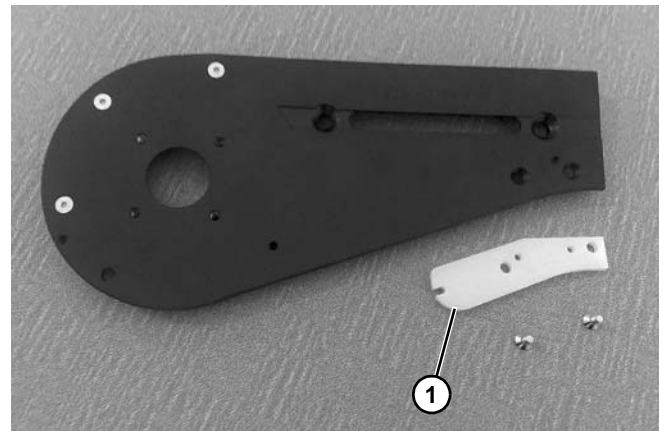

Figure 124
3. Remove drive return guide (Figure 124, item 1).